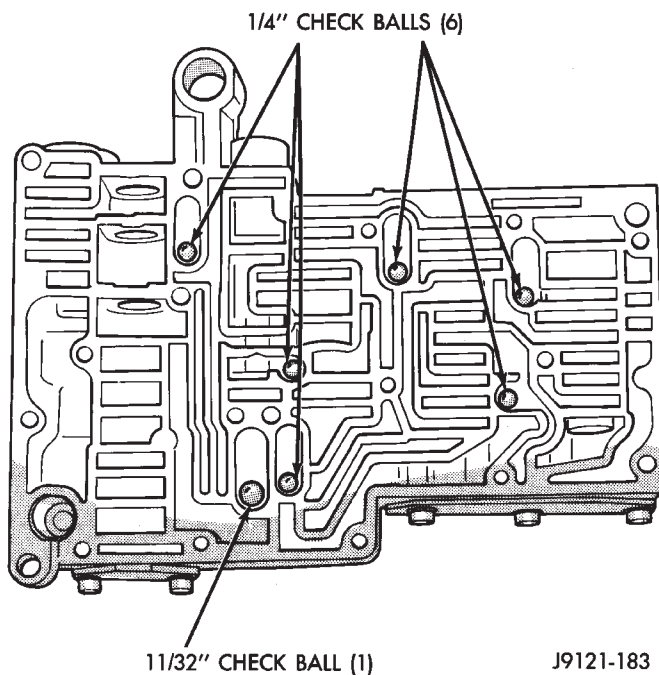

Fig. 116 Correct Position Of Valve Body Check Balls
(6) Position valve body so internal passages and check ball seats are facing upward. Then install steel/plastic check balls in valve body (Fig. 116). The one large check ball is approximately 11/32 inch in diameter. The remaining check balls are approximately 1/4 inch in diameter.
(7) Align and install assembled transfer and separator plates on valve body. Install and tighten valve body screws alternately in a diagonal pattern to 4 N·m (35 in. lbs.) torque.